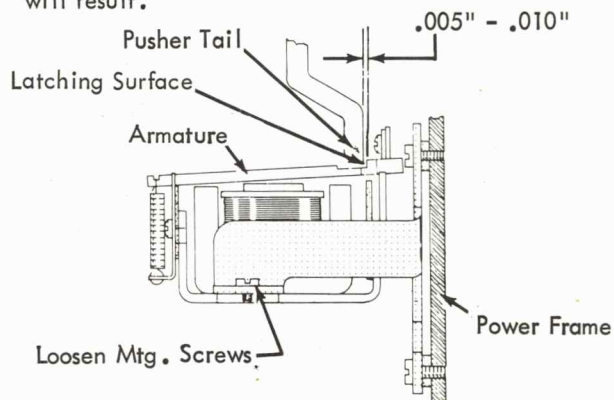

FIGURE 15. Magnet Unit Position
7. Magnet Unit (Fig. 15) - Position under its two mounting screws for .005" to .010" clearance between the pusher tails and armature latching surfaces (armatures at rest).
6. Magnet Unit (Fig. 15) - Position under its two mounting screws for .005" to .010" clearance between the pusher tails and the armature latching surfaces (armatures at rest).